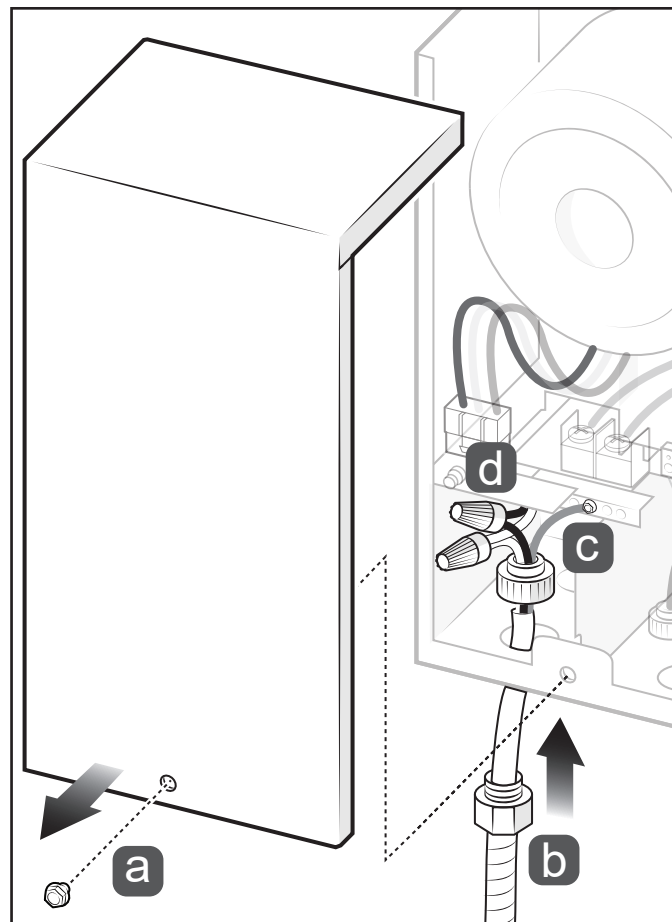

Figure 4. Connect High Voltage Wires
2. Remove the cover. The cover is held on by one screw, see Figure 4(a).
4. Thread a conduit connector that is rated to local code into the knockout hole on the Light Controller, see Figure 4(b).
5. Feed 120 VAC through the conduit and conduit connector on the Light Controller, see Figure 4.
6. Connect the green ground wire to the ground terminal bar in the Light Controller, see Figure 4(c).
7. Use wire nuts to connect the line wires (black to black) and neutral wires (white to white), see Figure 4(d).